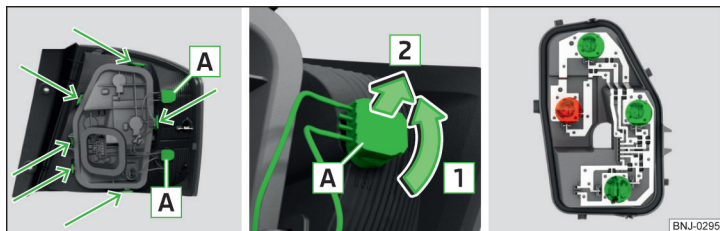

Fig. 307 Outer part of the lamp / removing the bulb / lamp holder
- Turn the holder with the bulb **A** in the direction of arrow **1** » Fig. 307.
- Turn the holders with the bulbs **A** in the direction of the arrow **1** » Fig. 307.
- Unlock the bulb holder at the areas marked with arrows » Fig. 307 and remove the bulb holder from the light.